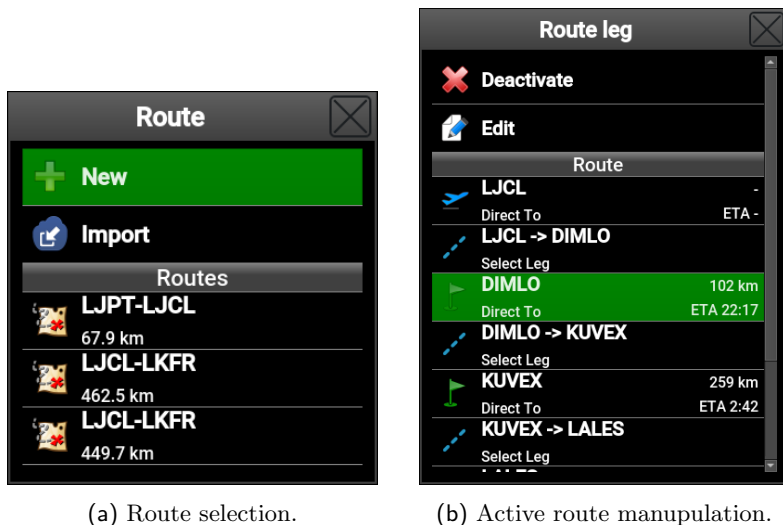

Figure 2.36: Route window depends on active route status.
With no active route a window opens, like shown in Figure 2.36 left. Routes are sorted alphabetically. Route name is typically defined by a takeoff - landing airfield pair.
When the *Route* command is issued and some route is already active, a different window appears. See Figure 2.36 right.
- Insert the stick into Nesis and select the **Import** command. See Figure 2.36 left.
When the **New** option is selected, see Figure 2.36 left, Nesis switches to a special *Route Planning* screen. Touch screen is used extensively in planning.